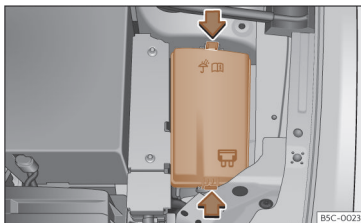

Fig. 204 In the engine compartment: lid of the fuse box.
- Press the locking tabs to unlock the fuse box cover >>> **Fig. 204**.